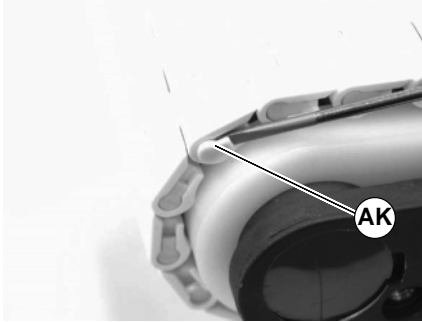

Figure 25
1. Choose one link on the idler end of chain to remove endcaps. With a 3/32" (2.4 mm) flat blade screwdriver, pry under tab of end caps (AK of Figure 25) and remove end cap. Repeat for opposite side of conveyor.